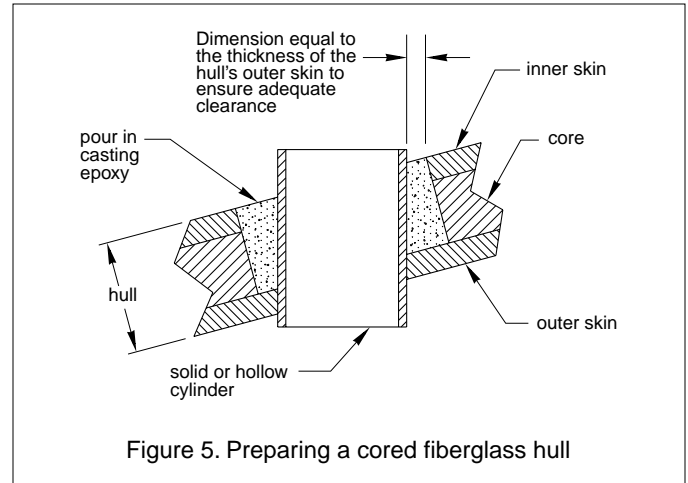

Figure 5. Preparing a cored fiberglass hull
1. Drill a 3mm or 1/8" pilot hole from inside the hull (see Figure 5). If there is a rib, strut, or other hull irregularity near the selected mounting location, drill from the outside. If the hole is drilled in the wrong location, drill a second hole in a better location. Apply masking tape to the outside of the hull over the incorrect hole and fill it with epoxy.